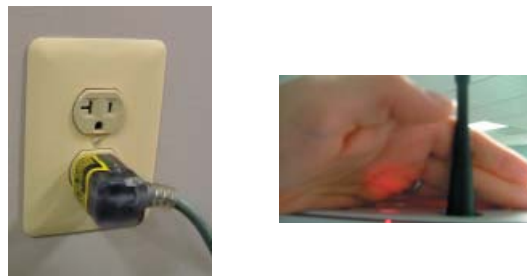

Figure 1-10. Plugging in the MCU
Step 8. Plug the power cord, which is located at the bottom back of the MCU™, into the designated wall outlet. Hold your hand above the back of the MCU™, next to the antenna, and verify a red light shines on your hand; this confirms the PCB is receiving power (Figure 1-10).